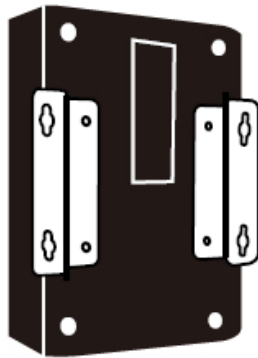

Figure 3-6: Mounting Bracket Installation
- Step 3:** Secure the brackets to the system by inserting two retention screws into each bracket (**Figure 3-6**).